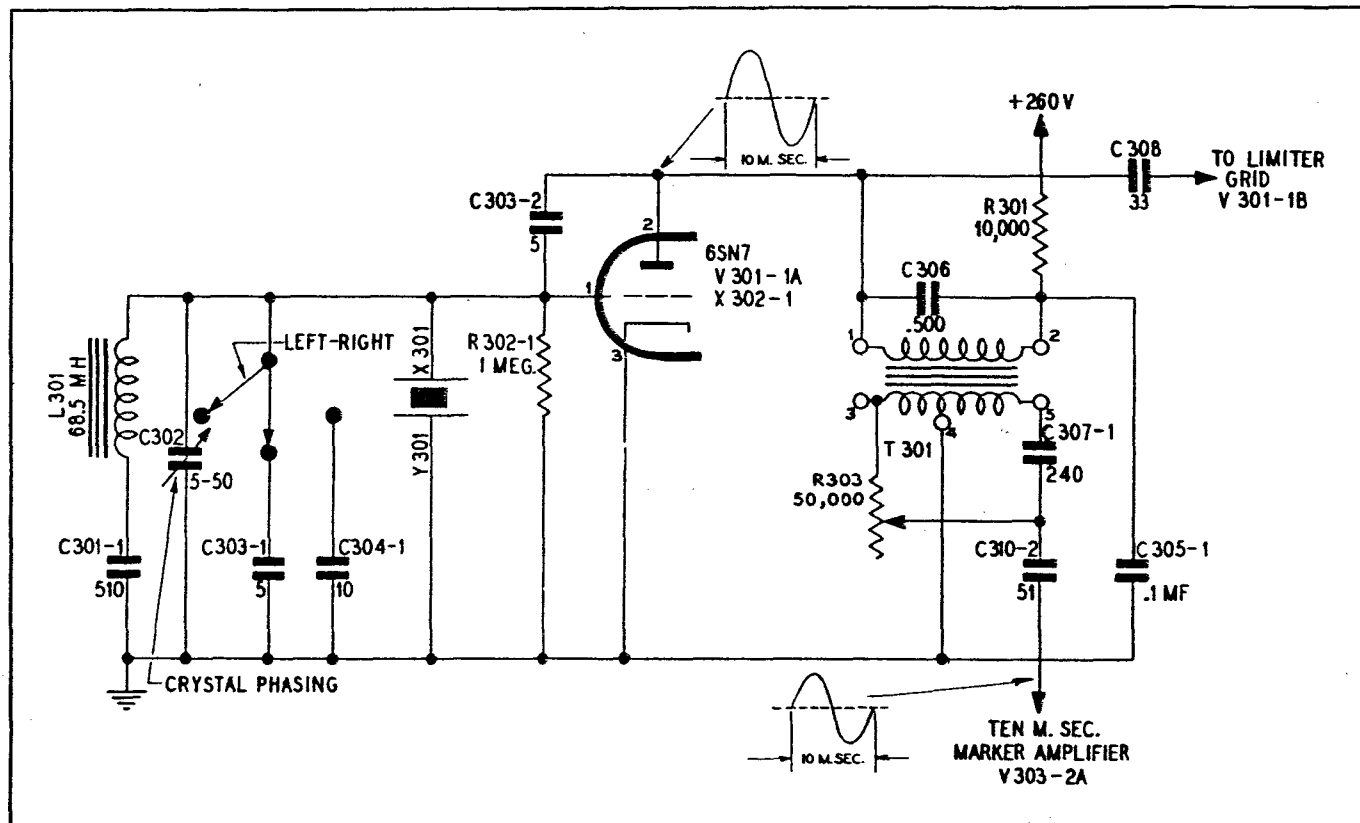

Figure 4-39. 100-Kilocycle Crystal Oscillator
(1) 100-KILOCYCLE OSCILLATOR AND LIMITER.—The 100-kilocycle oscillator, shown in figure 4-39, is the master timing circuit of the indicator unit. Its purpose is to generate a signal with a frequency of 100 kilocycles, which either directly or indirectly controls the action of all the other circuits. Since the indicator is primarily a time measuring device, the frequency of the oscillator must be very stable to obtain the necessary accuracy of measurement. To meet this requirement, a crystal is used in the grid circuit to hold the oscillator output at a constant frequency of 100 kilocycles.